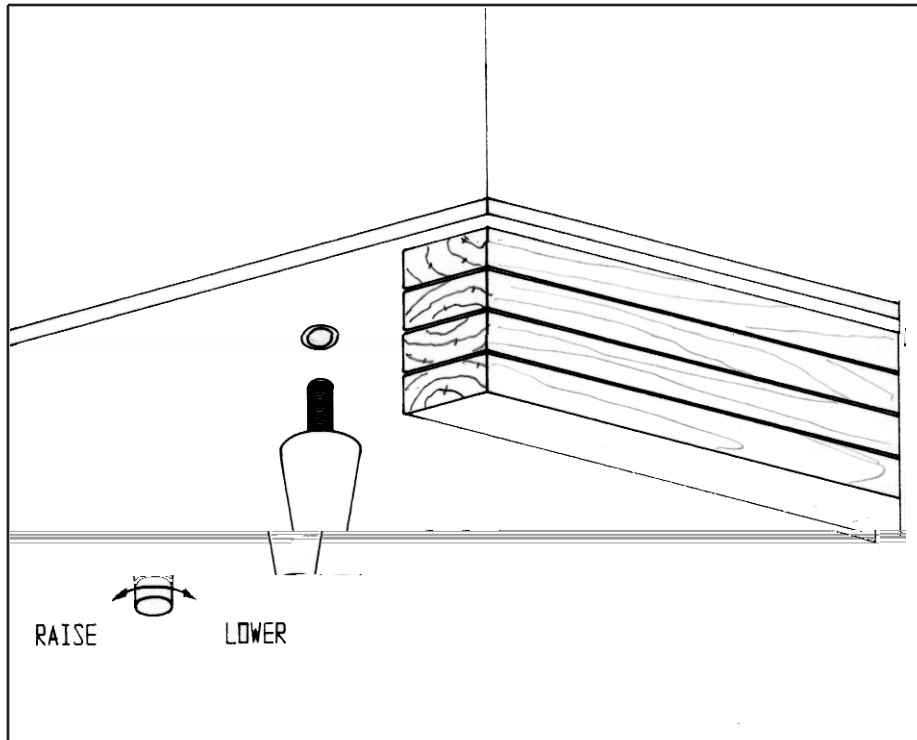

FIGURE 2
Your new “SW” series model is supplied with adjustable type legs for leveling purposes. Each SW27, SW48, SW60 and SW72 model has four leg mounting holes on its case bottom. Legs are packed in the accessory carton from which they must be removed and installed on the cabinet case bottom (see figure 2). In order to install the legs, carefully tip the cabinet rearward adding four (4) 2” wood blocks underneath and simply screw the threaded leg studs into the case bottom front leg holes. Repeat this procedure by tilting the cabinet in the opposite direction and install the remaining legs. Make sure the legs are tightened extremely well or the entire model will sway or rock with each opening or closing of the doors, possibly causing damage to the case bottom. This procedure should be performed close to the final installation site and allow access to the rear of the cabinet for condensate evaporator installation (see “condensate evaporator installation” under installation and location section).